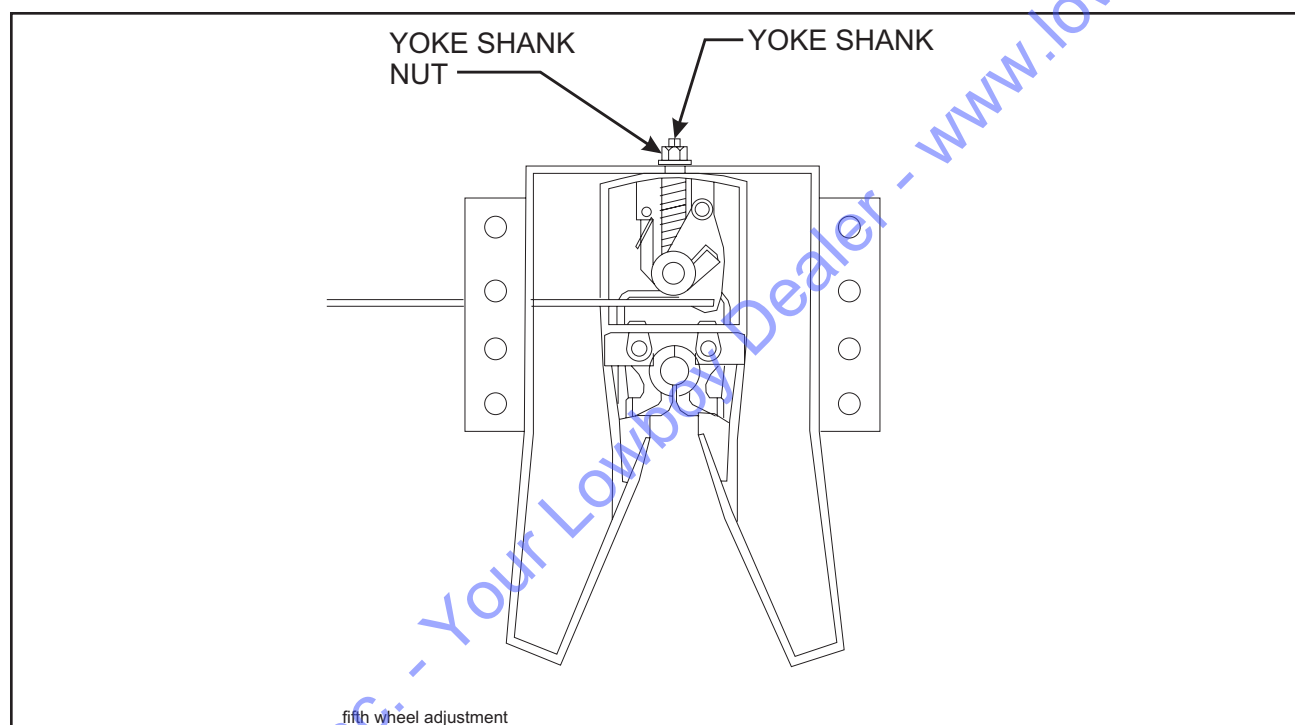

Figure 4-5 Fifth Wheel Adjustment
- d. If the plug fits loosely, tighten by rotating the nut on the shank counterclockwise. It may be necessary to tap the end of the yoke shank lightly to allow the nut to seat against the top plate (**See Figure 4-5**).